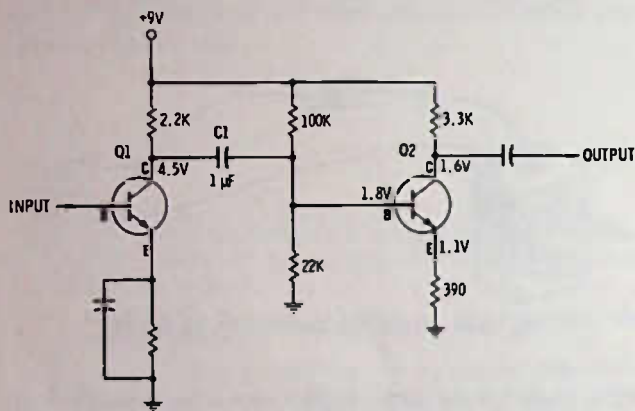

Fig. 15-11. Circuit for Question 14.
14. In Fig. 15-11 is a circuit where either transistor Q2 has a collector-emitter short or the bias is excessive. We know this because the emitter and collector voltage are almost the same, meaning that the transistor itself is nearly zero resistance between C and E. Assuming the transistor is all right in this case, we suspect that C1 might be shorted or leaky because the base bias is too high. How can we be sure?